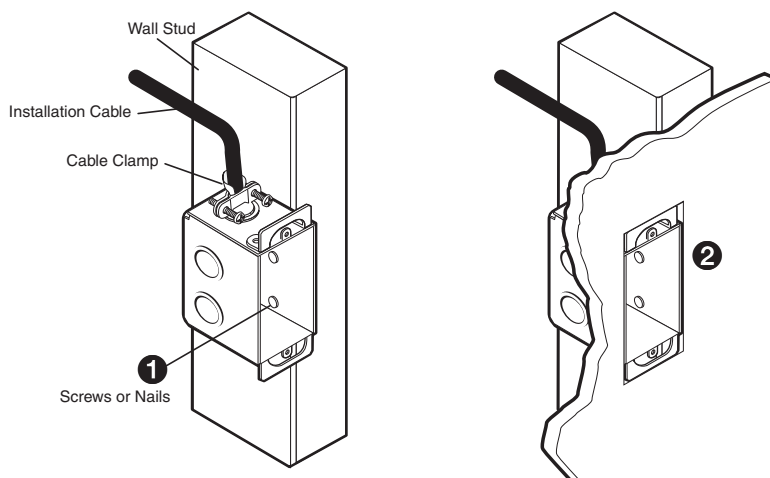

Figure 4. Attaching a Wall Box to a Wall Stud (applies to one-, two-, three-, and four-gang wall boxes)
6. Insert the wall box into the opening, and secure it with nails or screws (see figure 4, ❶), leaving the front edge flush with the outer wall or furniture surface (❷).